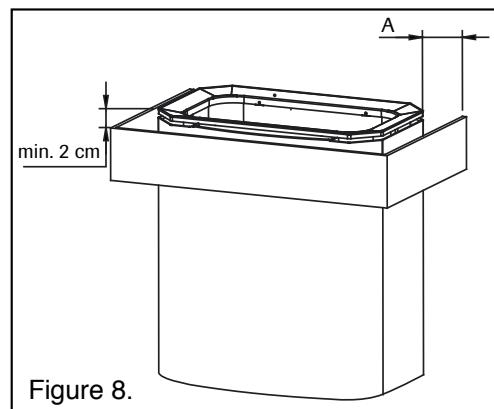

Figure 8.
- If necessary, a safety rail should be built around the sauna heater (Figure 8). We recommend making this rail from wood. The prescribed minimum clearances to structures made from inflammable materials shall be followed rigorously. Incorrect installation constitutes a fire hazard.